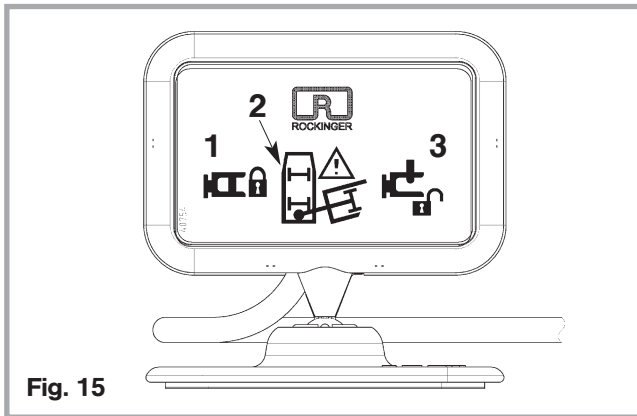
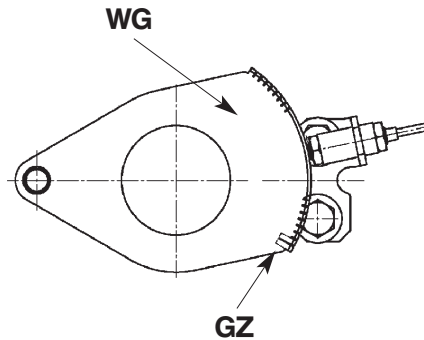

Fig. 15
Fig. 16
- Segments **GZ** of adjustmentplate **WG** that are not required can be bent outwards from sensor inner edge using suitable tool (Fig. 16) until the signal in the Display lights up (Fig. 15)